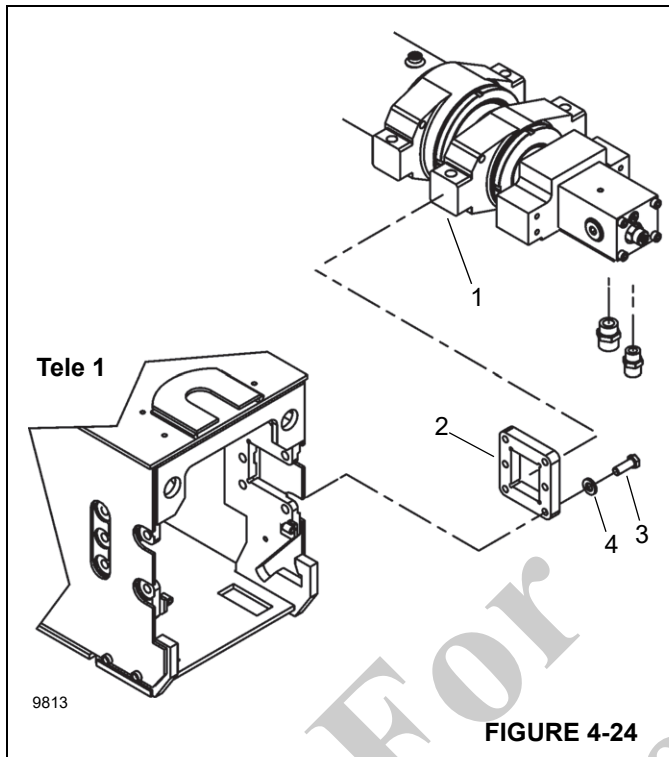

FIGURE 4-24
3. Assemble 4/3/2 retract cable keeper retainer assemblies (26) onto 4/3/2 retract cables, double nut just beyond flat on 4/3/2 retract cables and assemble at bottom tip of Tele 1 section boom.
4. Install lower side wear pads (39) with shims (38) on front inside of Tele 1 section boom using capscrews (37).
5. Install upper wear pad (31) with shims (30) using lockwashers (29), washers (28), and capscrews (27).
6. Install upper side wear pads (36) and shims (35) with capscrews (32), washers (33), and lockwashers (34) on the top front of Tele 1 section boom.
7. Loosely install trunnion plates (2, Figure 4-24) on telescope cylinder flanges (1).
10. Install cap screws (3, Figure 4-24), washers (4), and trunnion plates (2) to secure the telescope cylinder to the Tele 1 section boom.